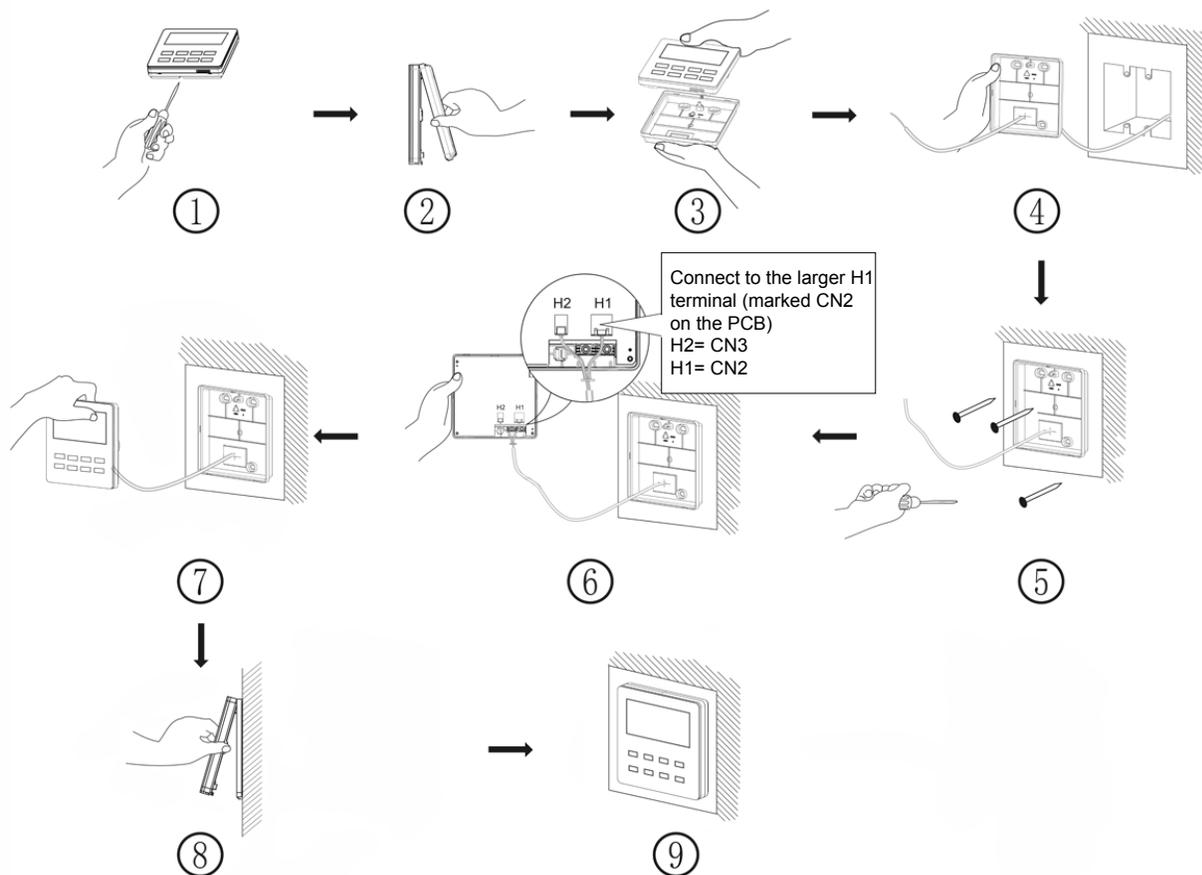

Fig. 23 Installation diagram for wired controller
The specific installation steps are shown in Fig. 23:
4. Connect the communication line to the port marked CN2 on the PCB (shown as H1 in Figure 23) and make sure the line is tightly secured with no potential for a short circuit to occur. Place the wiring into the groove at the left side of the wiring guide; secure the front panel of the wired controller to the mounting plate.